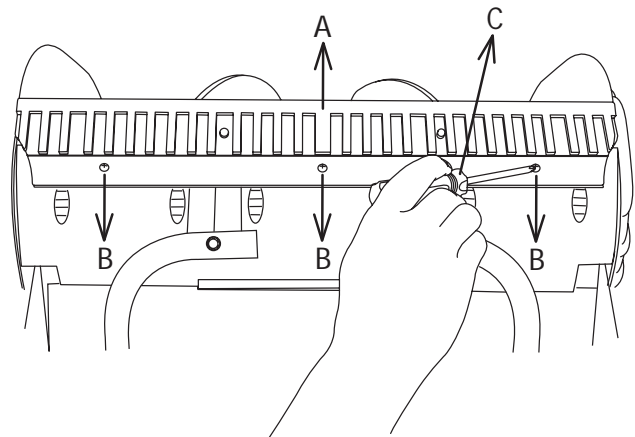

Figure 30
2. Install the new scraper and fasten it securely to the snow thrower with 3 screws (Fig. 30).